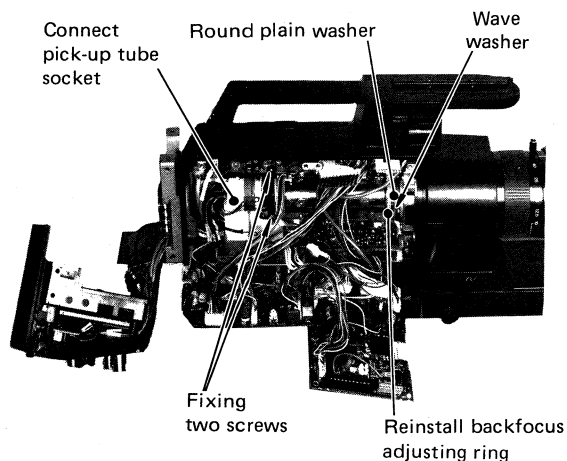

Fig. 3-1-11
- Solder the target lead. (Fig. 3-1-11)